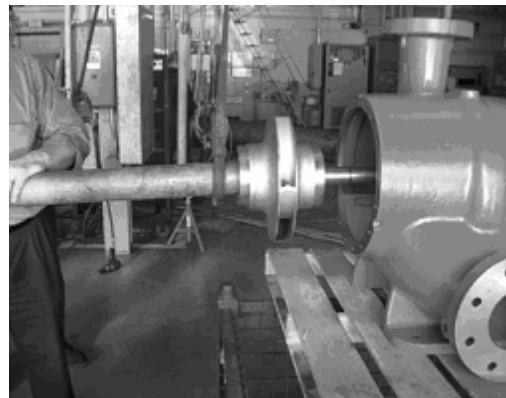

Figure 35: Removing the Shaft Assembly
4. Pull the impeller and shaft assembly from the volute. (See Figure 35.)